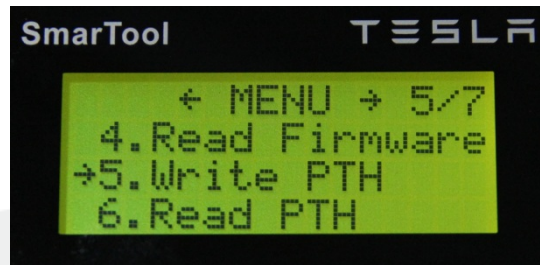

Figure 4
8. Press the down button to scroll to Write PTH (Figure 4). Press the ENTER button.